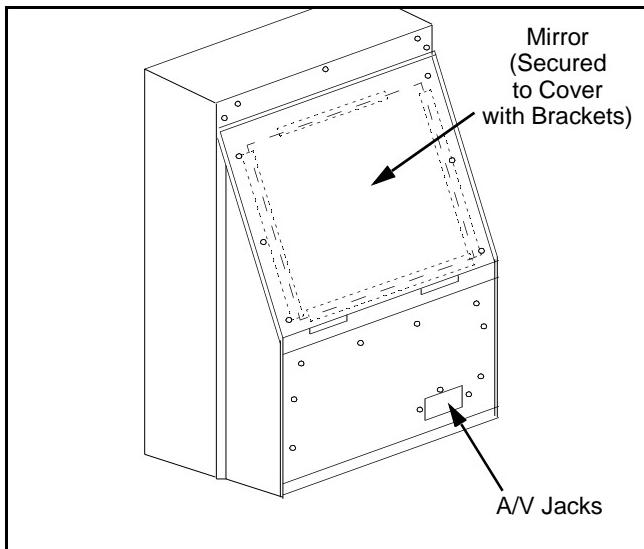

Figure 12. Back Covers Removal
(Figure 12)
2. Remove the bottom back cover. (Figure 12)
3. The main chassis block is secured to the cabinet by (4) screws (2 at front, behind the center decorative panel, 4 inside on bottom of optical frame).